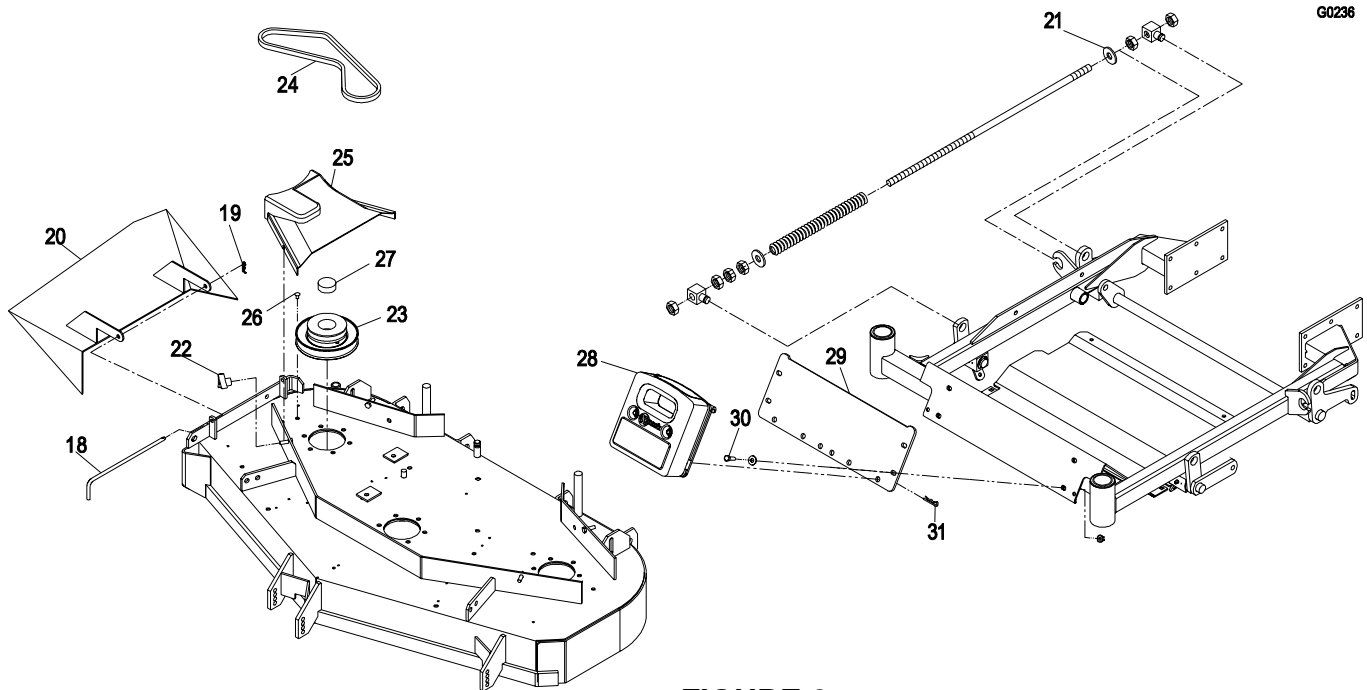

FIGURE 2
- i) Install the new belt cover (Item 25) secure with the two belt shield knobs (Item 22) as shown in Figure 2.